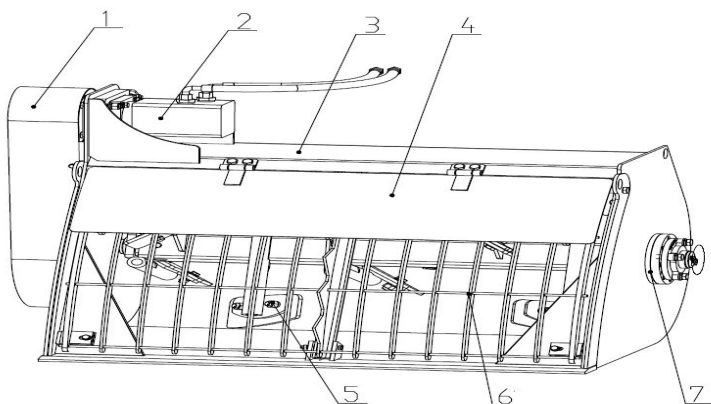

Figure 1
1、Product Structure Description (Figure 1):